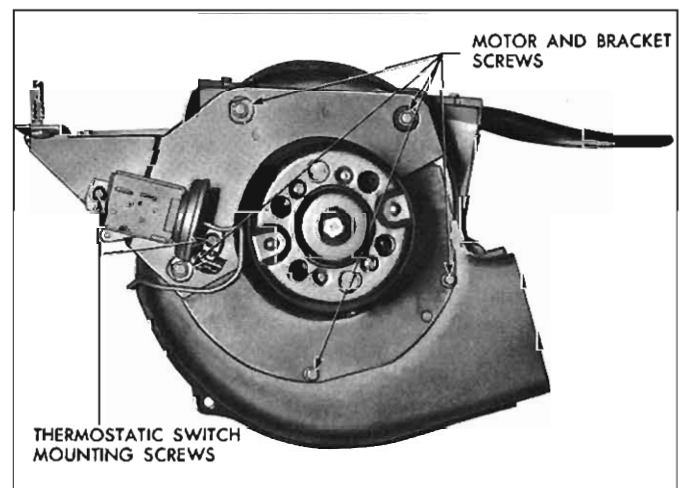

Fig. 11-26—Blower Motor Attaching Screws
3. From luggage compartment side of dash, remove the nut from the blower motor bracket stud. Remove the 5 screws in the blower motor mounting plate (see fig. 11-26), then withdraw the blower motor assembly from the blower housing.